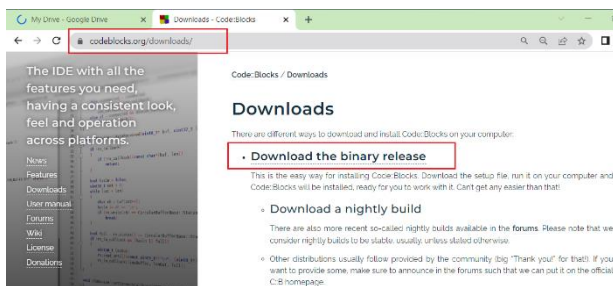

Figure 1: Download Code::Blocks
- 1) To download the required setup files from the internet, search CodeBlocks and go to <https://www.codeblocks.org/downloads/>. Select **Download the binary releases**. Select the setup package depending upon your platform like Microsoft Windows in our case. From the given setup files, select **codeblocks-20.03-setup.exe** as shown in Figure 1. Click on one of the **Download From** options for example **Sourceforge.net**. For a 32-bit operating system type, you can select **codeblocks-20.03-32bit-setup.exe**.